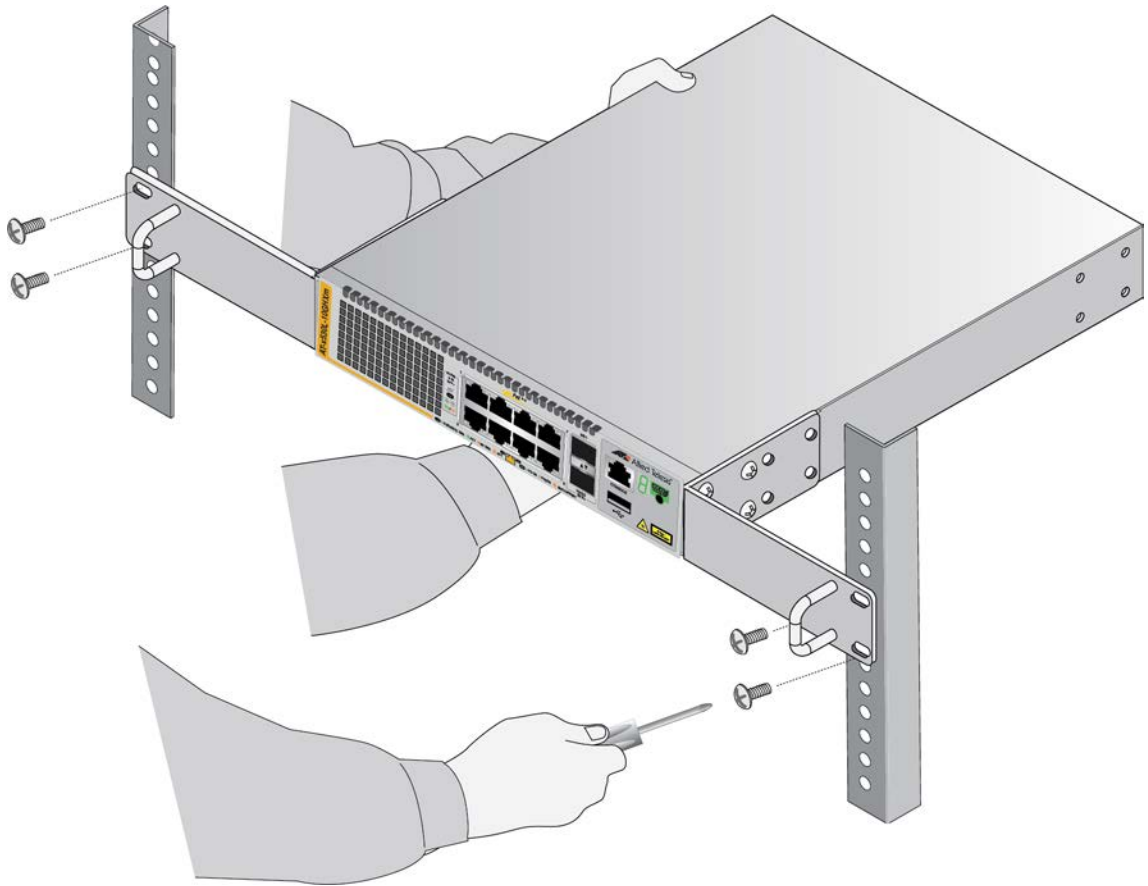

Figure 37. Installing the Switch in an Equipment Rack
4. Have another person hold the switch at the desired location in the equipment rack while you secure it using four standard equipment rack screws (not provided). Refer to Figure 37.